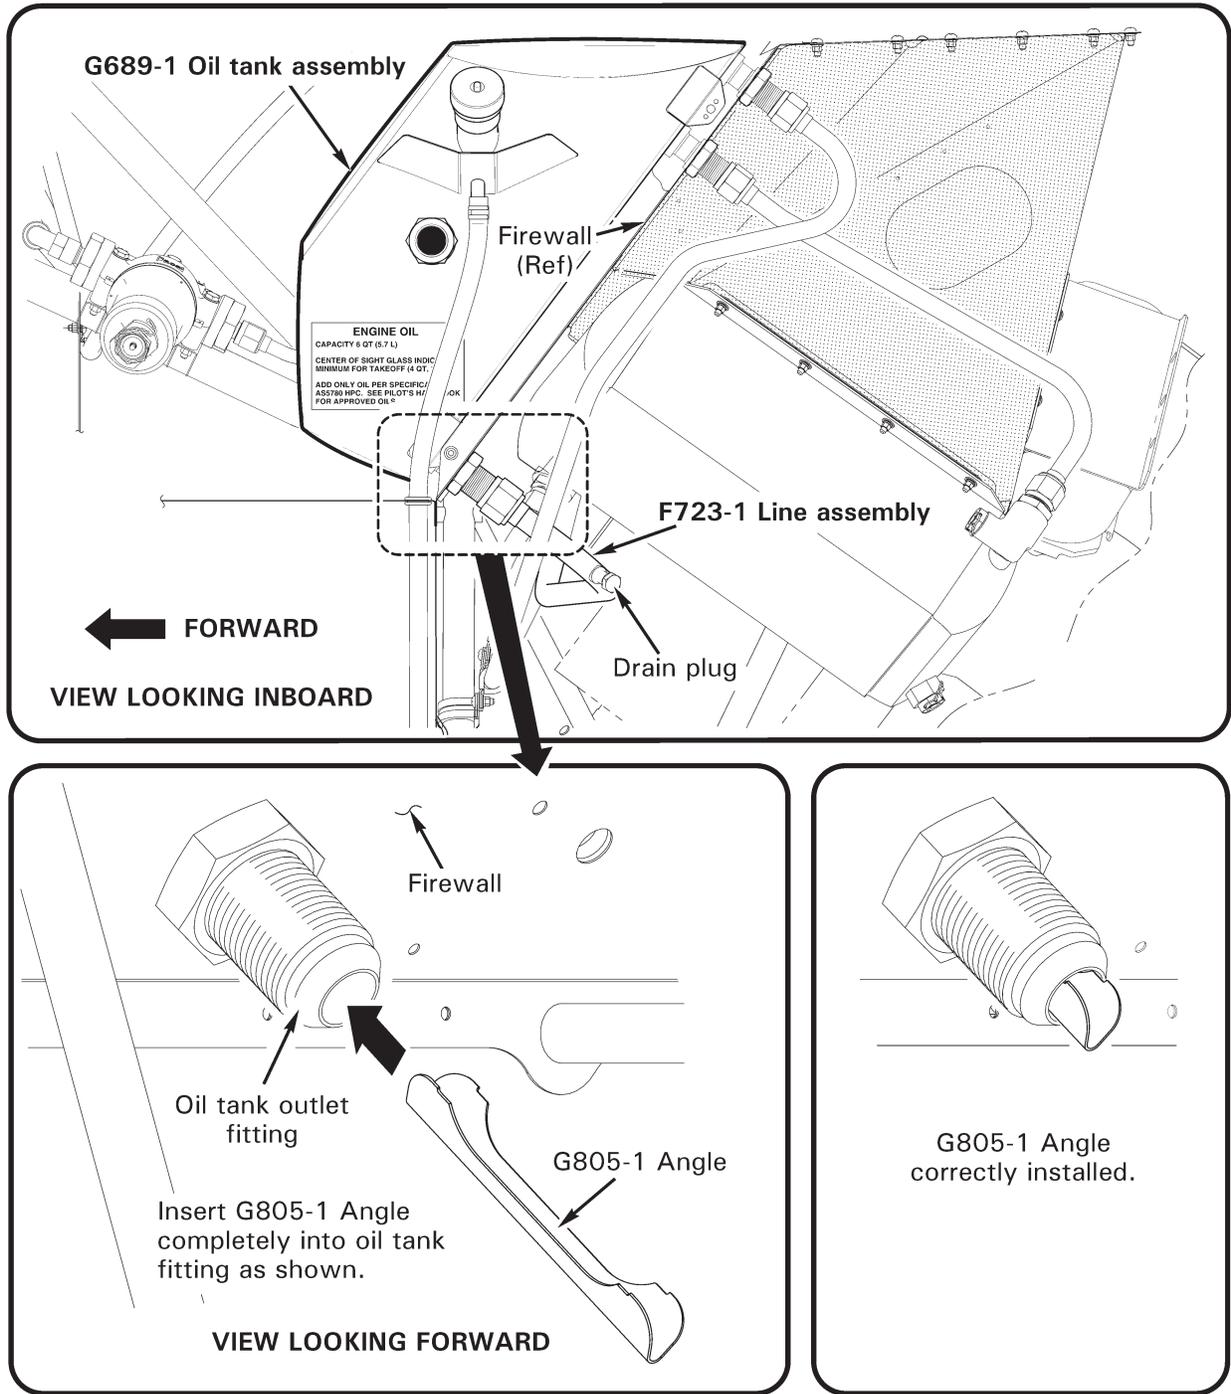

FIGURE 1
2. Drain engine oil per R66 Maintenance Manual (MM) § 12-60, utilizing suitable clean container if reusing oil.
3. Refer to Figure 1. Disconnect F723-1 line assembly from tank fitting at firewall.